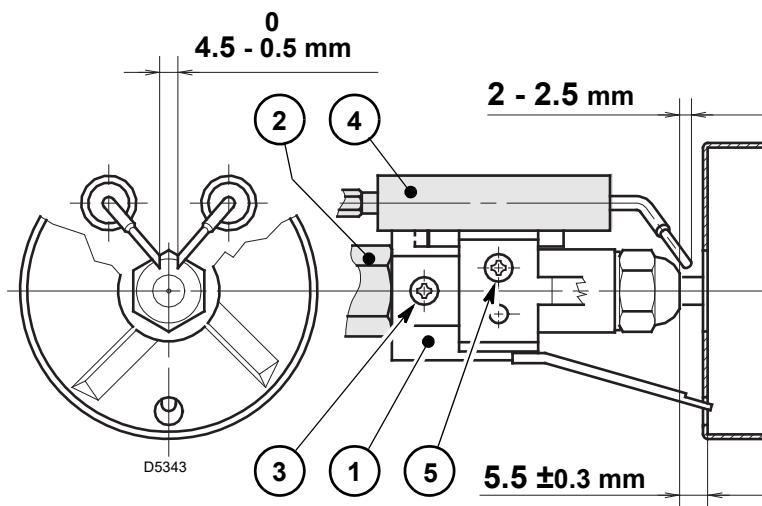

Fig. 11
These dimensions Fig. 11 must be respected.
- Rest the diffuser disc-holder assembly 1)(Fig. 11) against the nozzle holder 2)(Fig. 11) and lock it in place with the screw 3)(Fig. 11).
For any adjustments of the electrode assembly 4), loosen screw 5)(Fig. 11).